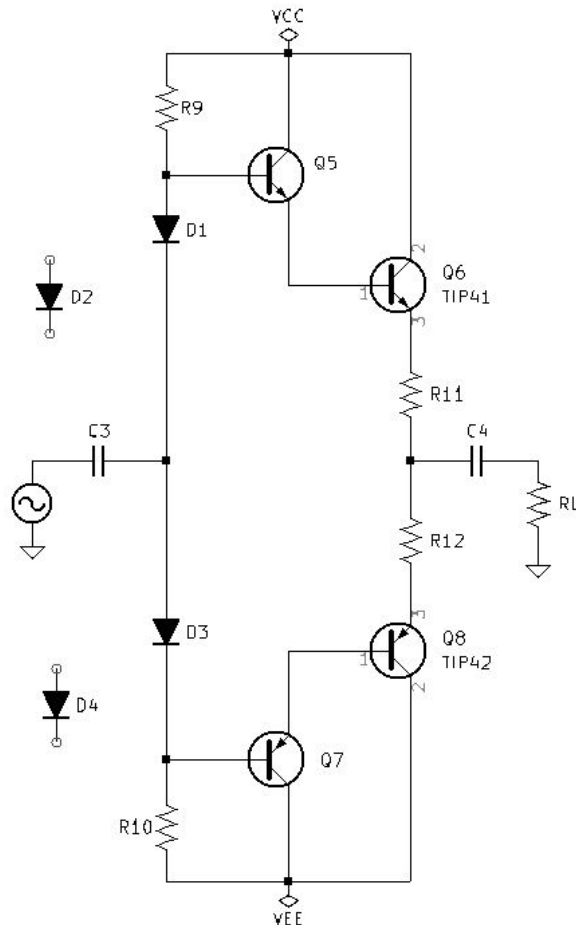

Figure 5.2: Push Pull Amplifier Cross-Over Distortion Test Circuit.
- (b) Build your calculated Push-Pull Amplifier with D2 and D4 removed from the circuit. Also, replace RL with a $10K\Omega$ resistor. See Figure 5.2 *Push Pull Amplifier Cross-Over Distortion Test Circuit.* on page 49.